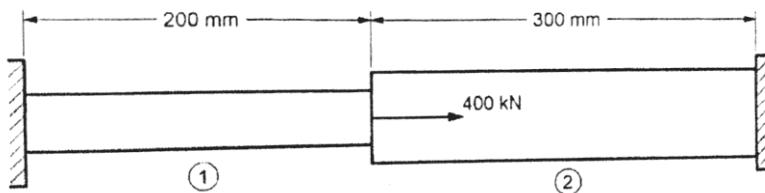

**Figure 1**
- Q3)** a) An axial load  $P = 300$  kN is applied on a stepped steel bar as shown Figure 1. [6]